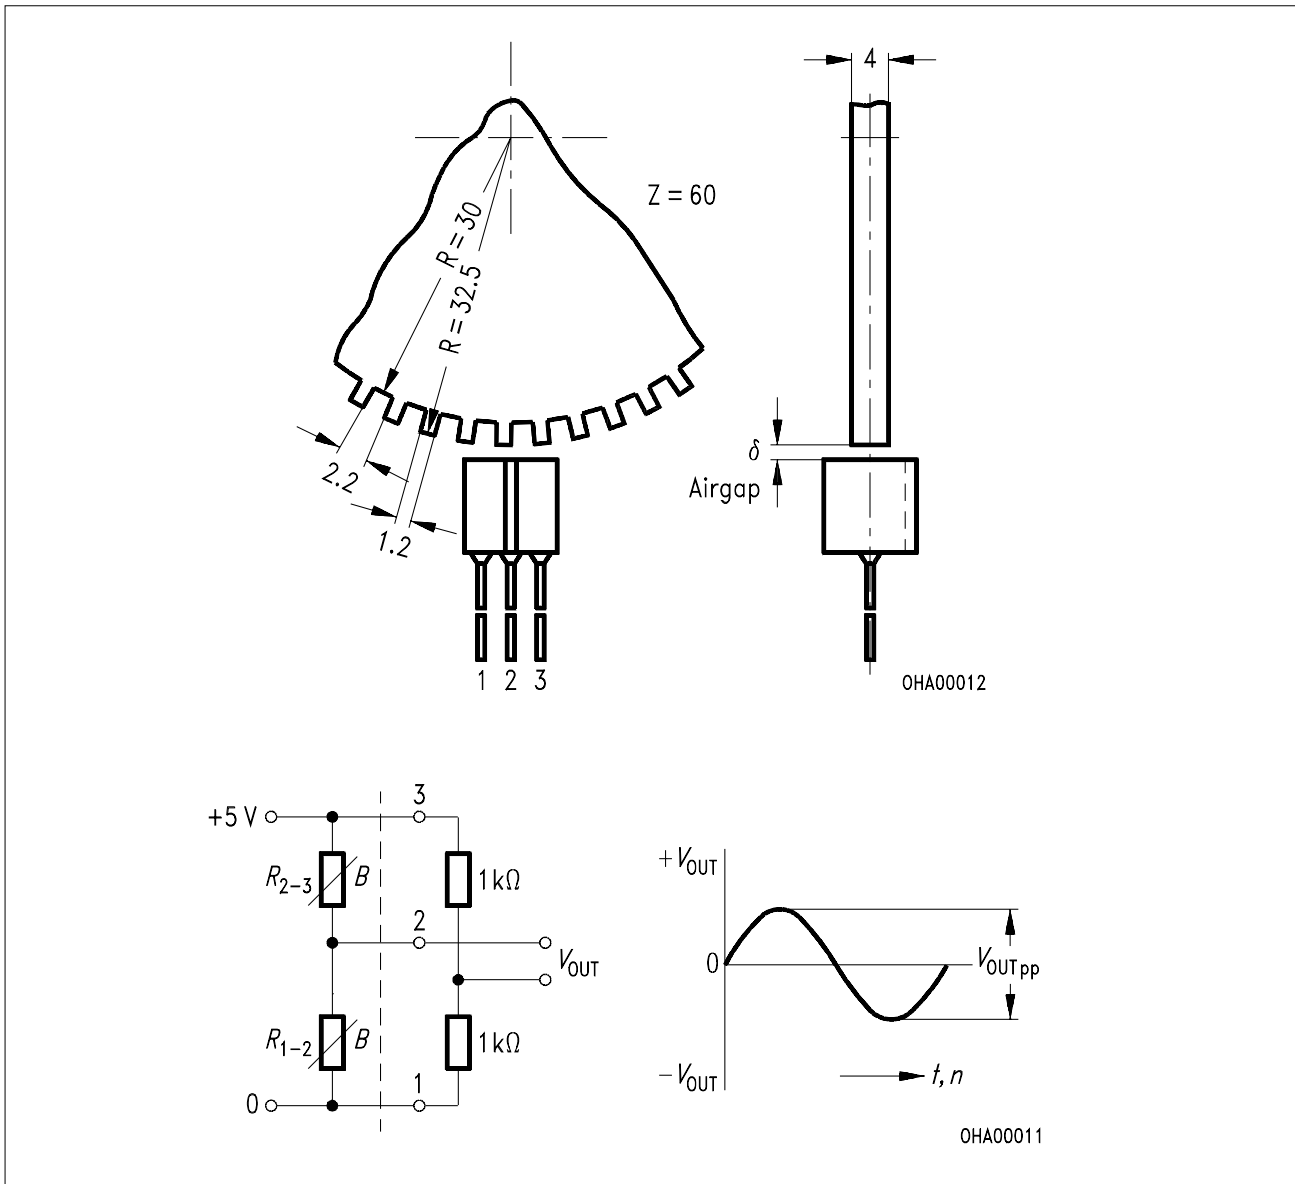

Figure 1
5) Corresponding to measuring circuit in **Fig. 2** and arrangement as shown in **Fig. 1**
For digital revolution counting, the sensor should be actuated by a magnetically soft iron toothed wheel. The tooth spacing should correspond to about twice the magneto resistor intercenter spacing (see **Figure 1**).